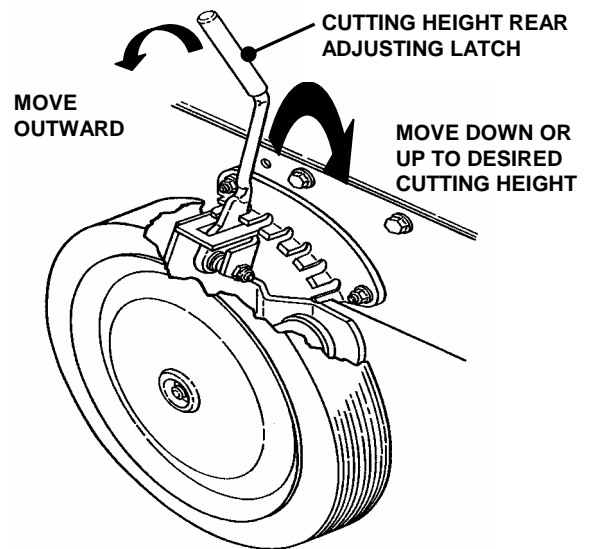

FIGURE 2.7
1. Pull the rear height adjusting latch outward and move to desired cutting height. See Figure 2.7.